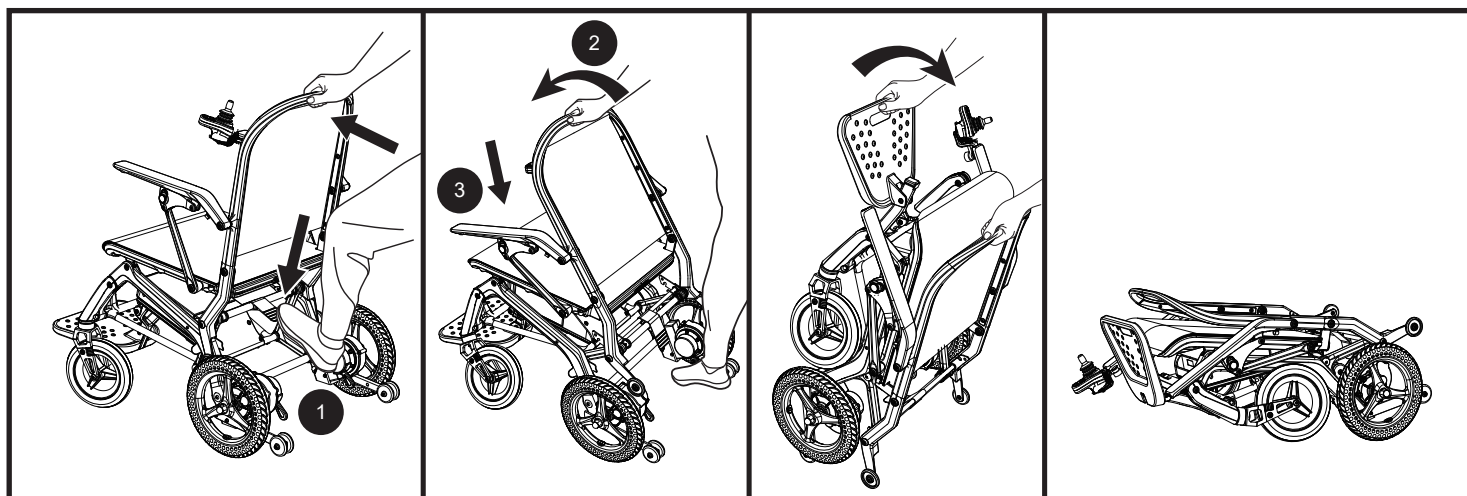

Figure 7. Folding the Jazzy® Ultra Light
1. Standing at the rear of the chair, step down on the foldable lock handle and at the same time, push the backrest frame forward until the hooks on both sides of the power chair are released. **See figure 7.**